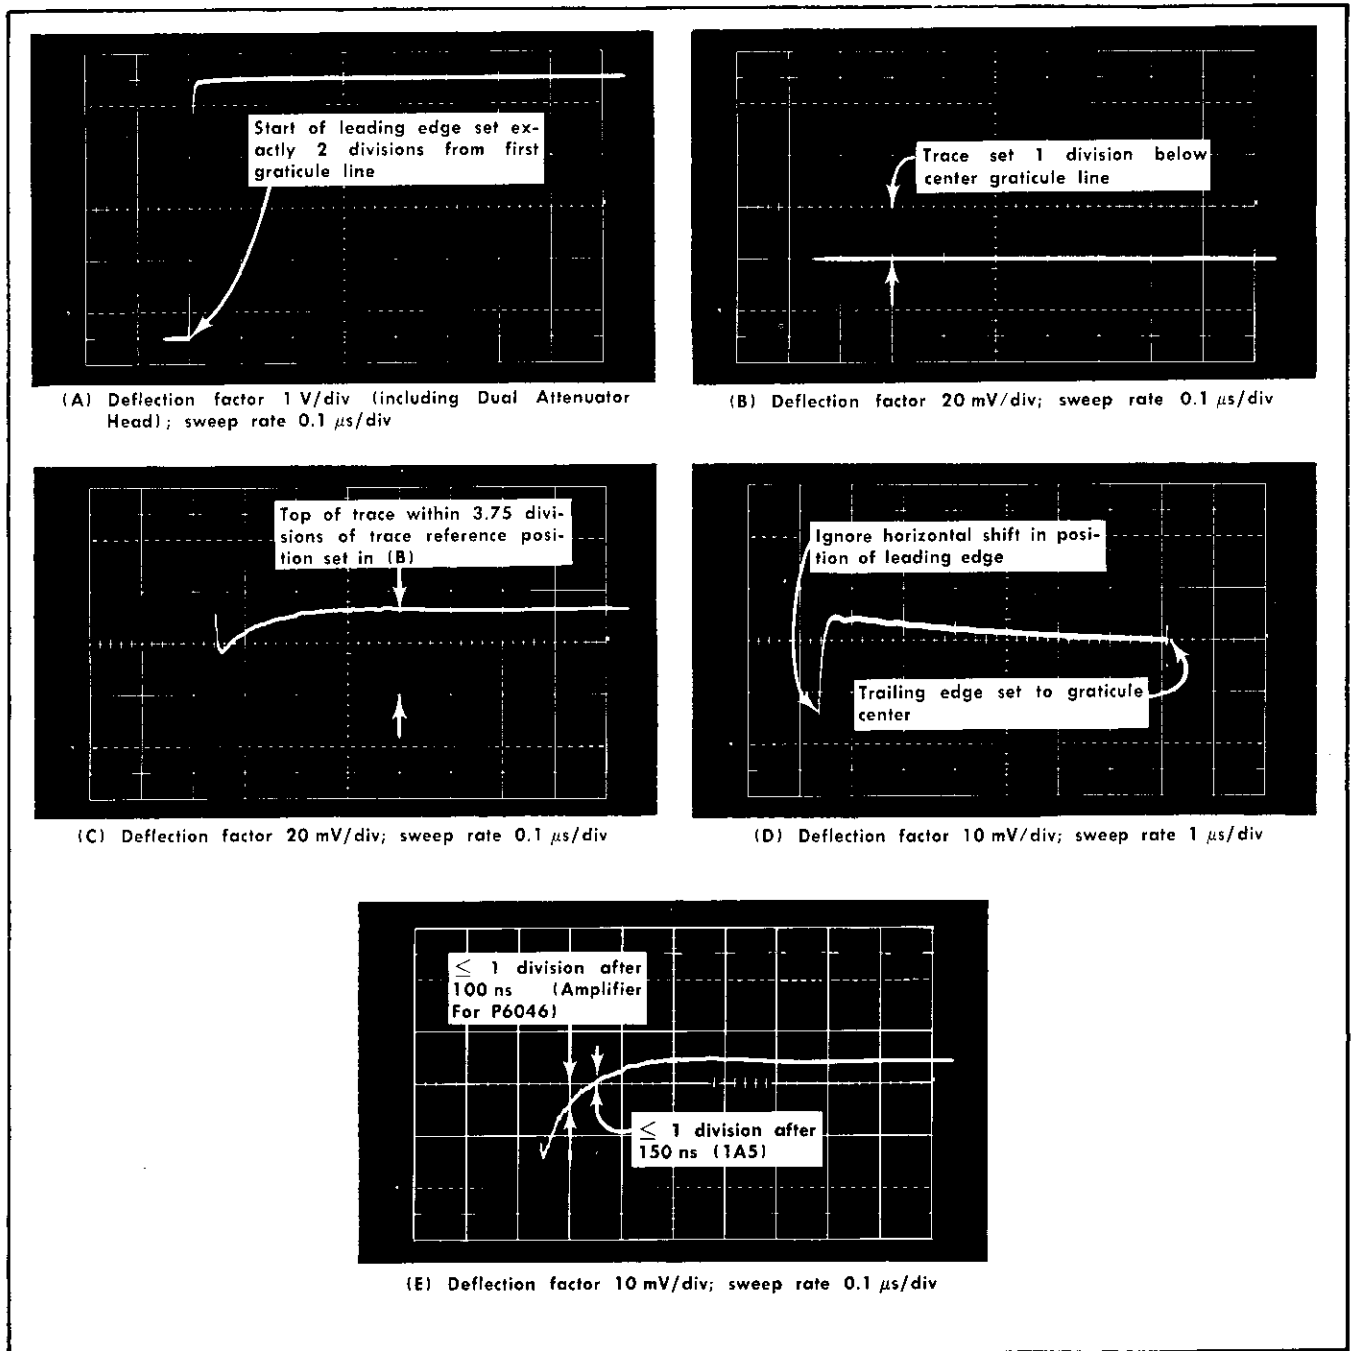

Fig. 6-15. DC shift and overdrive recovery waveforms, step 8.
- GR $2\times$ attenuator (item 16)
- h. Adjust the Square-Wave Generator AMPLITUDE control to provide a 5 div square wave. Adjust the Oscilloscope TRIGGERING LEVEL as necessary to obtain a stable display. Using the horizontal position controls, set the leading edge of the positive square wave to start exactly 2 div from the first vertical graticule line as shown in Fig. 6-15 (A). Do not move the horizontal position or triggering controls for the remainder of this step.
- l. CHECK—DC shift due to overdrive. Connect a special ground tip to the Probe — Input tip, then connect the + Input tip to the Probe tip-to-GR adapter and associated equipment. Check the position of the top of the square wave 1 second after making the connection. 3.75 div or less trace shift should occur, for a trace shift of 1.5% or less of input signal. See Fig. 6-15 (B) and (C).
- m. Set the vertical deflection factor control to 10 mV and the oscilloscope Time/Div to $1 \mu\text{s}$. Using the vertical POSITION control, set the trailing edge of the top of the square wave to the vertical center of the graticule as in Fig. 6-15 (D).
- n. (P6046 Probe — Type 1A5 only) Check—Overdrive recovery time. Switch the Time/Div control back to $.1 \mu\text{s}$ and check the vertical separation between the trace and the graticule vertical center 3.5 div from the first vertical graticule line (150 ns after start of step function as shown in Fig. 6-15 E). At that point the trace should be within 1 div of graticule vertical center, and stay within 1 div for the remainder of the positive excursion of the square wave.
- o. (P6046 Probe — Amplifier For P6046 only) CHECK—Overdrive recovery time. Switch the oscilloscope Time/CM to $.1 \mu\text{s}$ and check the vertical separation between the trace and the graticule vertical center 3 divisions from the first vertical graticule line (100 ns after start of step function, as shown in Fig. 6-15 E). At that point the trace should be within 1 div of graticule vertical center, and stay within 1 div for the remainder of the positive excursion of the square wave.